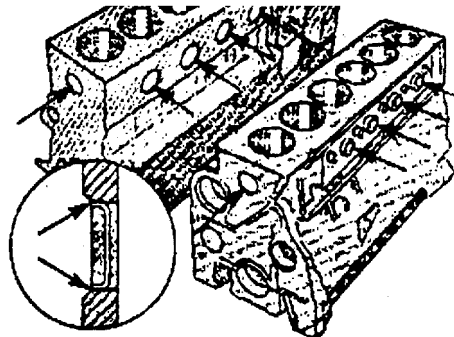

FIGURE 4-98. Install Coolant Passage Cup Plugs
- n. Drive the coolant passage plugs in until the outer edge is flush with the countersink in the block. (FIGURE 4-98)